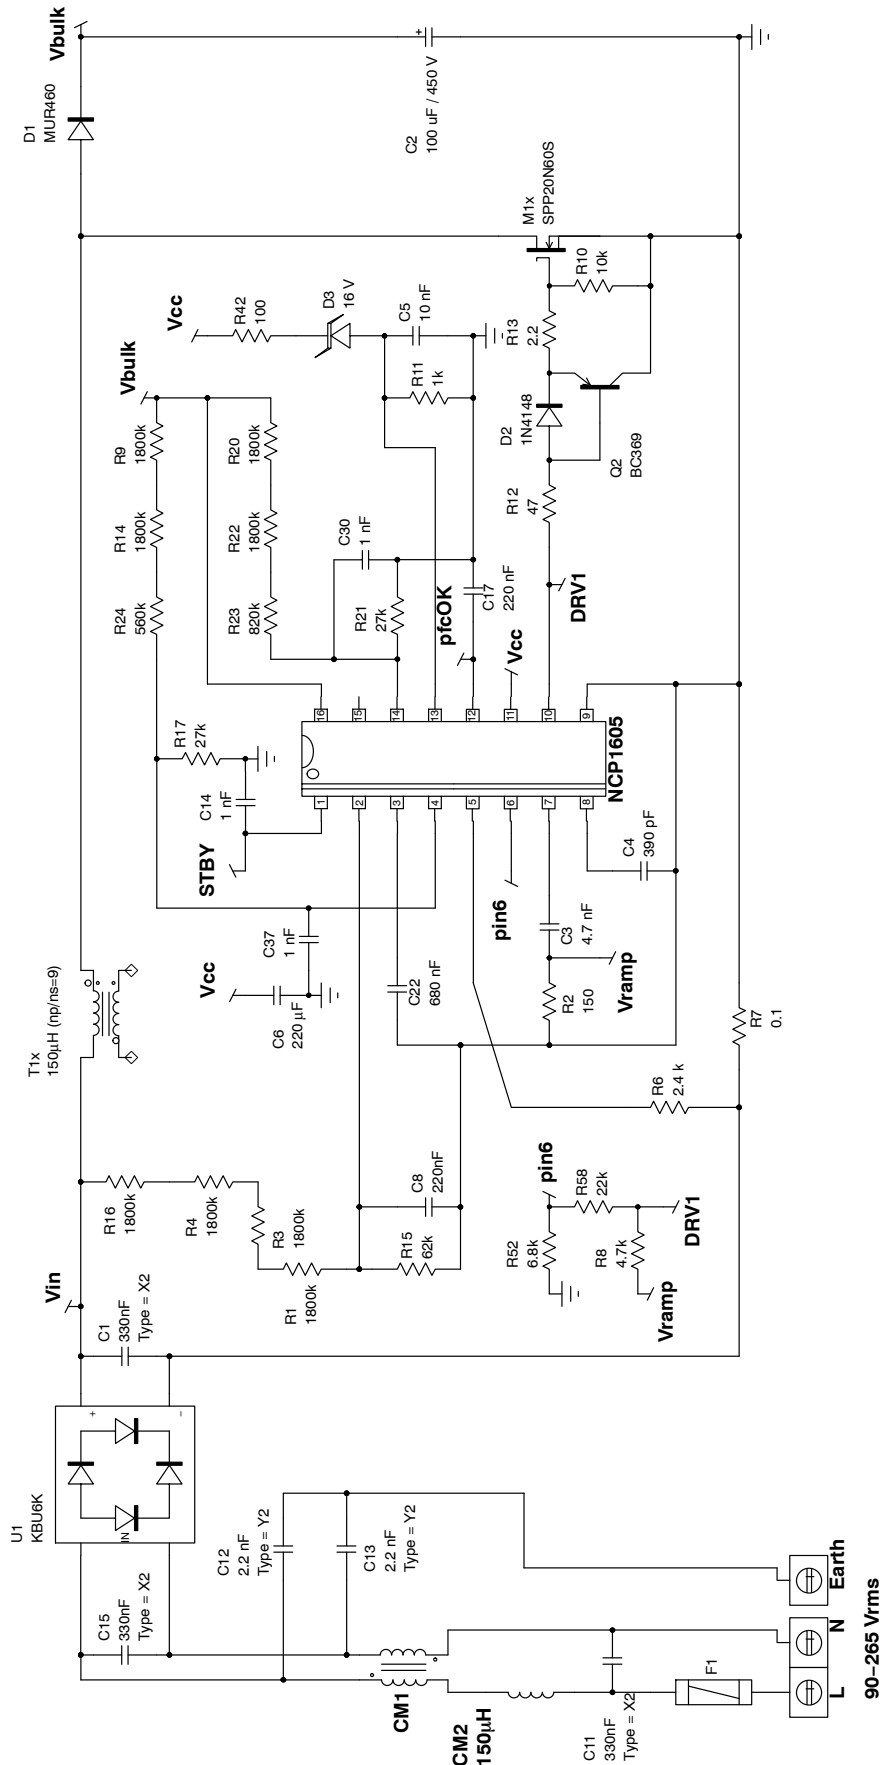

Figure 2. NCP1605 Forward Evaluation Board Schematic – PFC Stage
- Shut-down: if more than 2.5 V are applied to pin 13, the circuit latches off and cannot recover operation until the SMPS is unplugged (to enable the NCP1605 V_{CC} voltage to drop below its 4 V reset voltage). This latchoff capability is supposed to trigger in case of a major fault like any overheating of the SMPS. In this application, it is used to disable the power supply in case of a severe runaway of the V_{CC} voltage. This is simply made by applying the V_{CC} voltage through a 16 V zener diode (D3) so that if $(V_{\text{CC}} - 16 \text{ V})$ exceeds 2.5 V, the circuit latches off (see Figure 2). R11 adjusts the biasing current through D3 and together with R42 and C5, this resistor avoids that the protection falsely triggers due to some noise. R42 is chosen small compared to R11 not to modify the threshold since the actual voltage applied to pin 13 is: